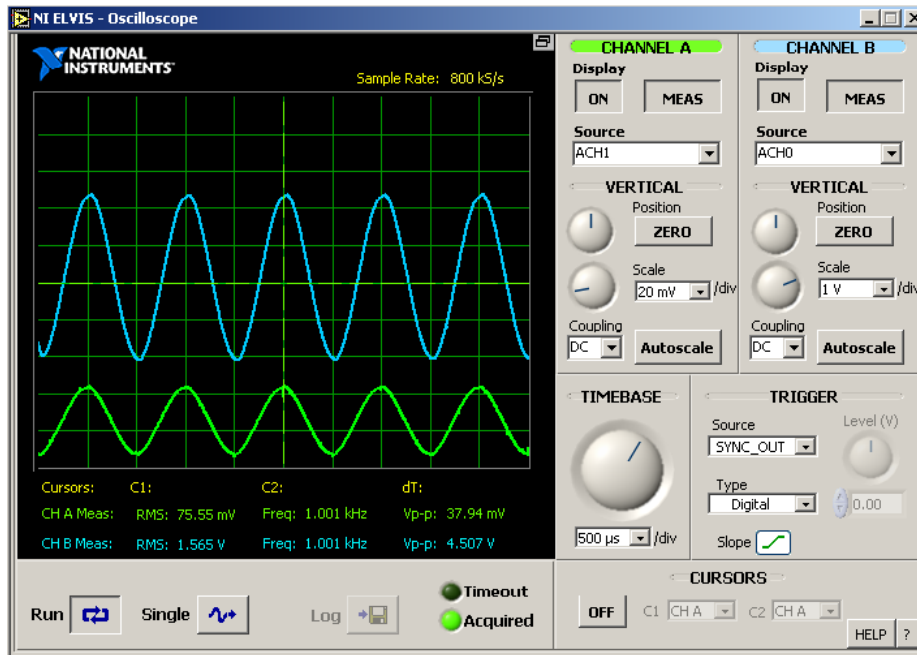

Fig. 8. Oscilloscope output with output on AI0+/AI0- trimmed to have close to zero DC offset.
5. Use the oscilloscope SFP from Elvis to observe both the input and the output on channels AI1 and AI0 respectively. Now adjust the 20k potentiometer to balance the output waveform to be around 0 V as close as possible. As the 20k potentiometer is adjusted the waveform on Channel B should move to be as close as possible to being symmetric around zero DC voltage. This is shown in Fig. 8. Now we have calibrated the DC offsets of the Opamp.